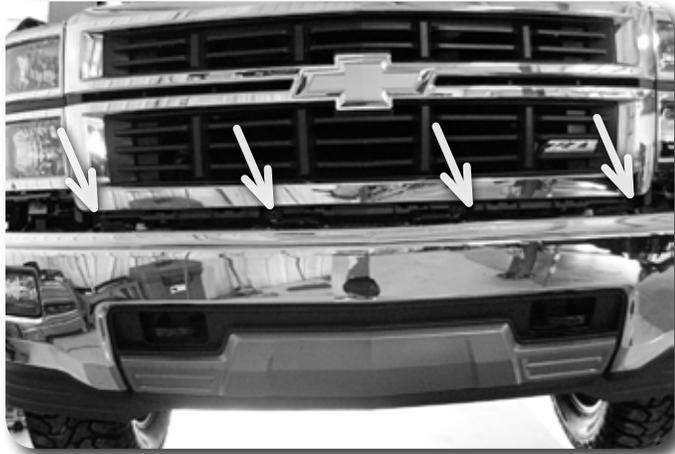

Figure 4
6. With the valance removed, the 4 lower grill mounting bolts are accessible. Remove these bolts and remove the grill from the vehicle. **Figure 4**